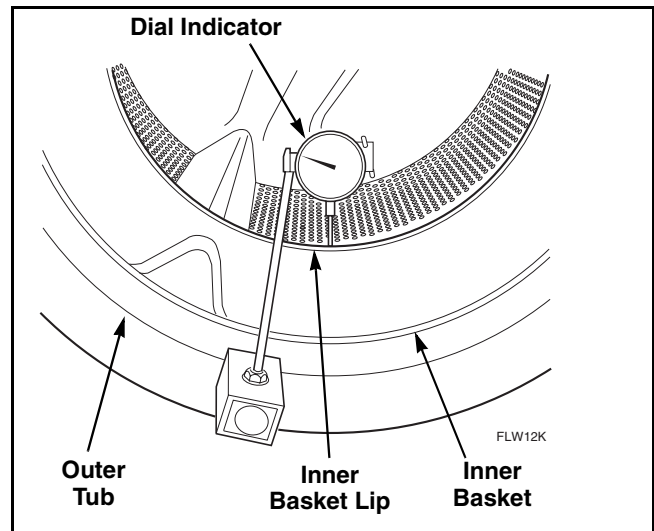

Figure 24
- Check for concentricity/roundness of assembly. Use a dial indicator to check that concentricity at the inside edge of inner basket lip is a maximum of .05 inch TIR (Total Indicator Runout). Refer to Figure 24. If concentricity is not within .05 inch, remove assembly from washer and adjust location of trunnion. Repeat until concentricity is within .05 inch.